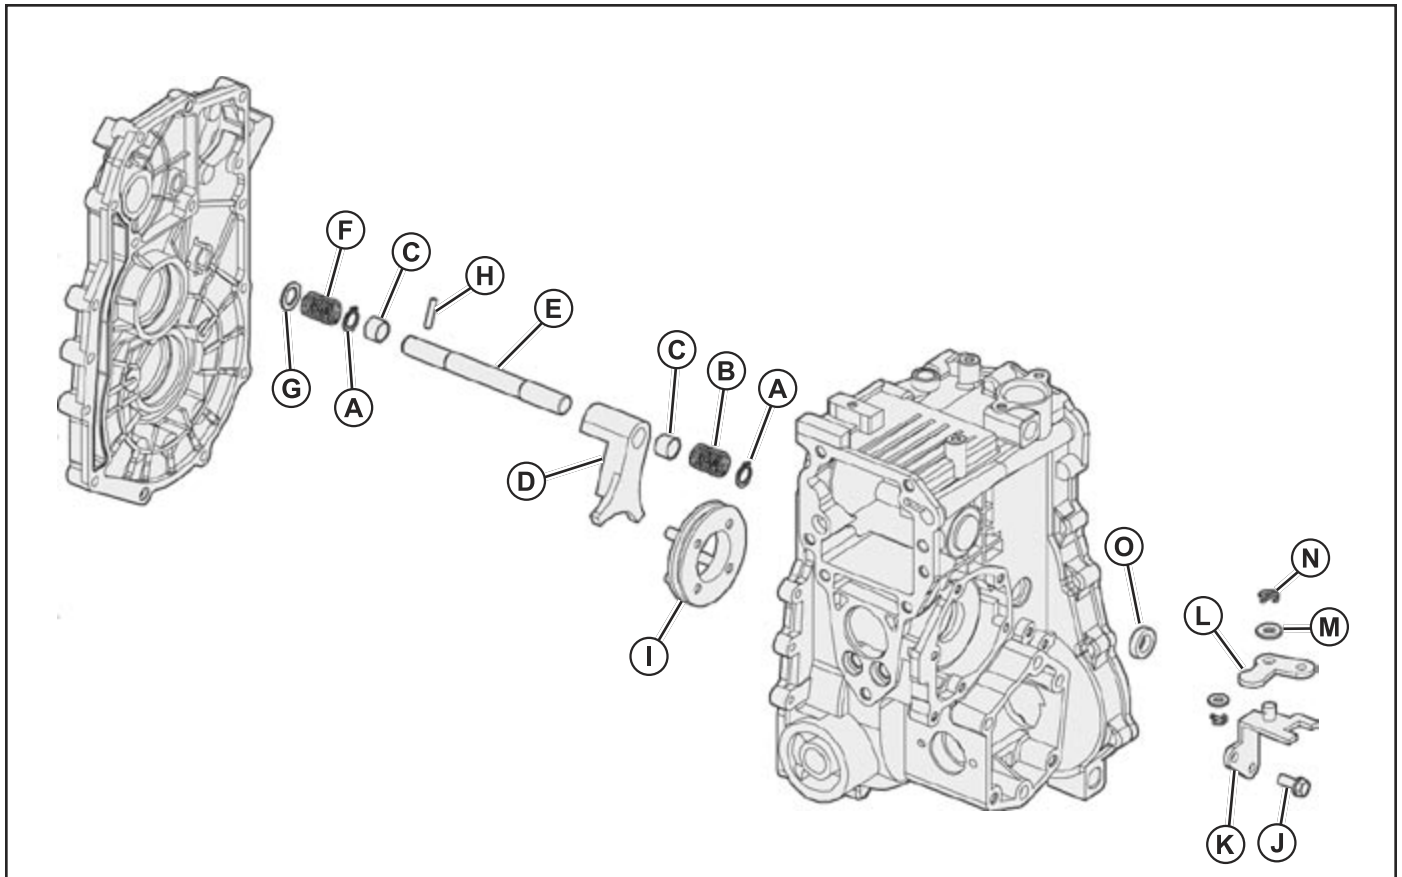

Fig. 38, Differential Lock Shaft Disassembly
1. Remove roll pin (H), washer (G), and spring (F). (Fig. 38)
2. Remove snap rings (A), sleeves (C), spring (B), shaft (E), and fork (D). (Fig. 38)
3. Inspect shaft (E) and fork for wear or damage. Replace parts as necessary. (Fig. 38)